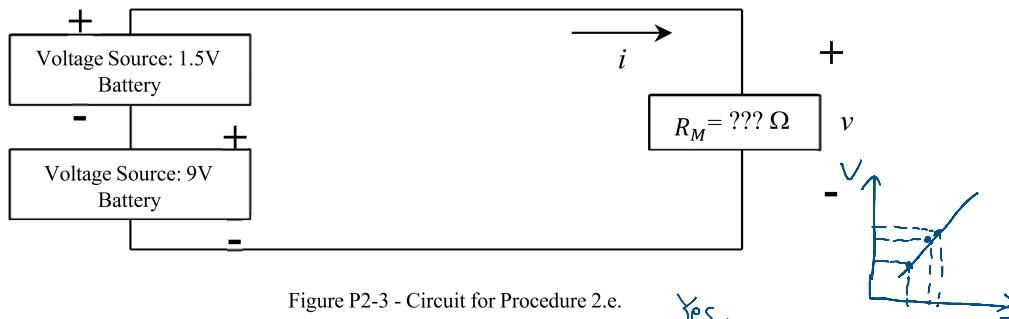

Figure P2-3 - Circuit for Procedure 2.e.
e. (2 points) Connect the 9V battery and the 1.5 V battery in series across the mystery resistor R_M. See Figure P2-3. Repeat steps b and c.